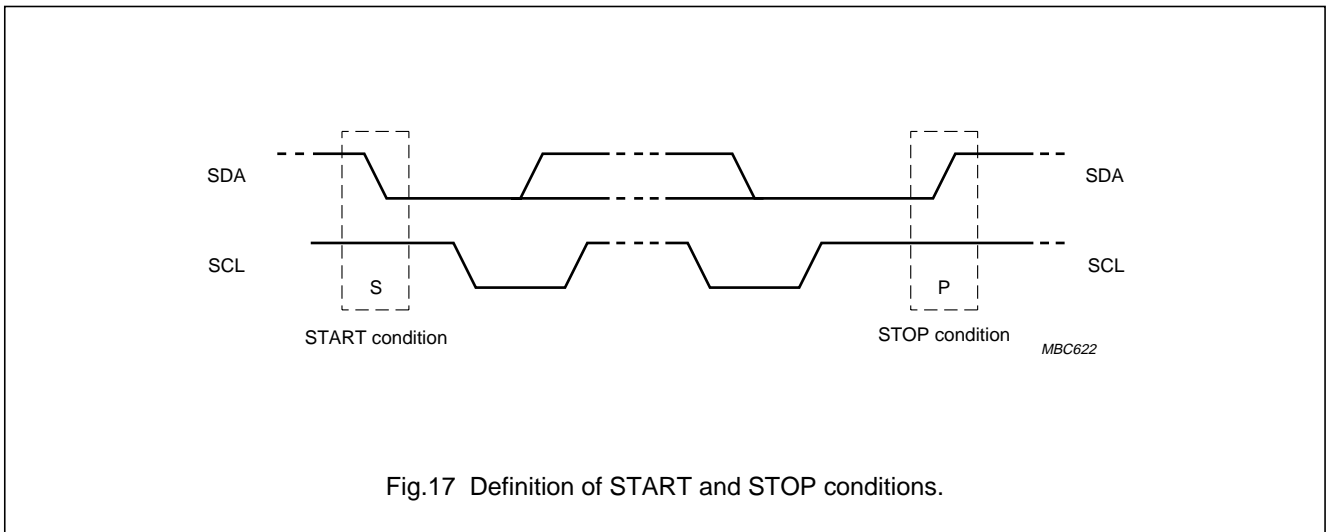

Fig.17 Definition of START and STOP conditions.
Both data and clock lines remain HIGH when the bus is not busy. A HIGH-to-LOW transition of the data line, while the clock is HIGH is defined as the START condition (S). A LOW-to-HIGH transition of the data line while the clock is HIGH is defined as the STOP condition (P) (see Fig.17).